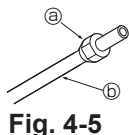

Fig. 4-5
4.2.3. Putting nut on (Fig. 4-5)